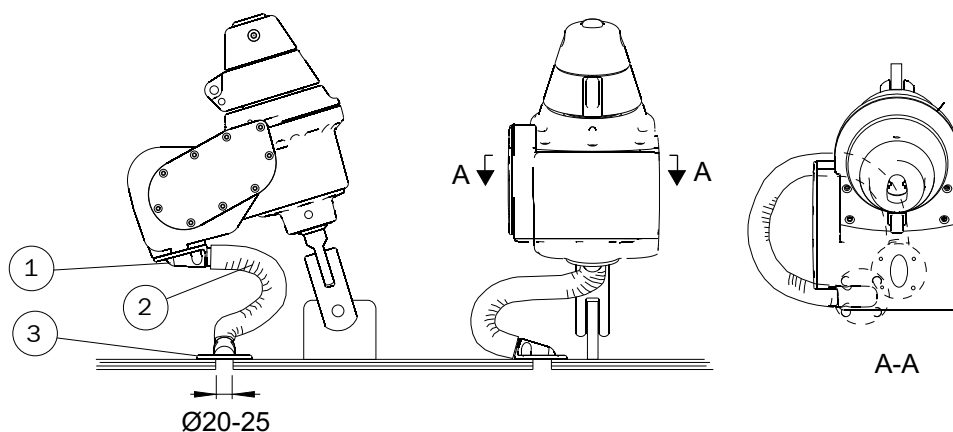

Fig. 5.6
9. Fig. 5.6 shows an example of mounting the collar and sleeve.